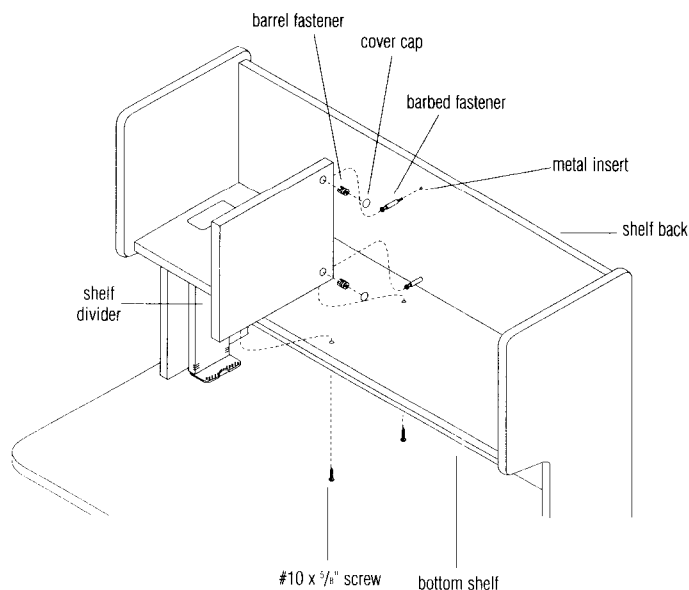

Figure 4
12. Insert two barbed fasteners into metal inserts on the center of the shelf back and two barrel fasteners into the sockets in the shelf divider. Orient the arrows on the barrel fasteners (open position) to point toward the shelf back (Figure 4).
13. Align installed barbed fasteners with the barrel fasteners (arrow pointing toward shelf side for open position) and insert together, joining the shelf divider with shelf back. With a Phillips screwdriver, or 3/32" hex wrench (supplied), rotate barrel fasteners clockwise to secure divider to back. Press top caps into barrel fasteners (Figure 4).
14. Align screw holes in the bottom of the shelf divider with the holes in the bottom shelf. Fasten together with two #10 x 3/8" screws (Figure 4).